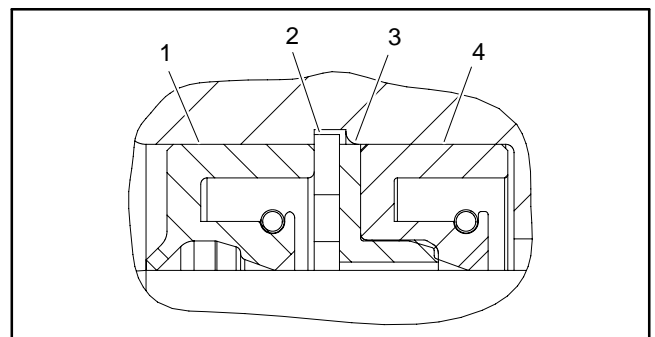

Figure 74
10. Carefully remove dust seal, retaining ring, flange washer and shaft seal from the front flange (Fig. 74). Discard seals.
2. Install new seals into front flange (Fig. 74):